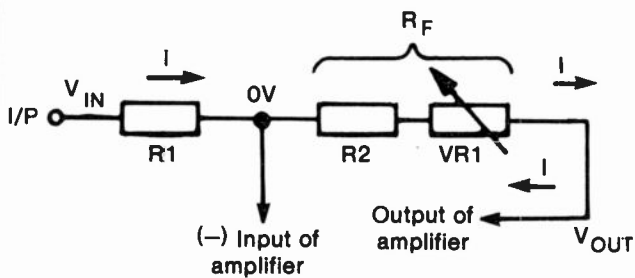

Fig. 61 Voltages and current in Module 32.
*How it works:* this is based on a CMOS operational amplifier ic. It has two inputs to allow for either dc input (I/P1) or ac input (I/P2). Input goes to the inverting input (–) of the amplifier while the non-inverting input (+) is held at 0V. The output of the amplifier is fed back to the inverting input, by way of VR1 and R2. The output of the amplifier (measured relative to the 0V rail) depend on the *difference* of the voltages at its inputs. If the input at (–) is positive, the output swings negative, until the (–) terminal is at 0V, the same as the (+) terminal. This is shown in Figure 61. The input